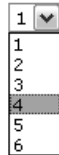

Figure 6-15 — Output selection drop box
1. Click the output drop box. A drop down scroll box appears (figure 6-15).